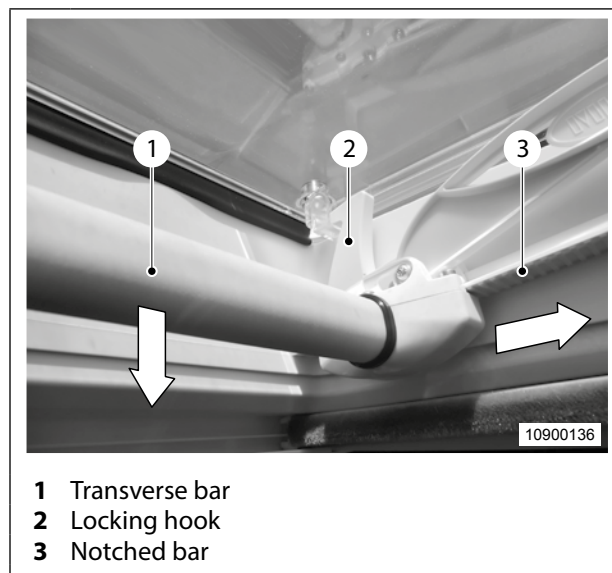

Fig. 17 Opening/closing the roof light
1. Grip the middle of the transverse bar (Fig. 17, item 1) with one hand and pull downward.
2. Hold the transverse rod (Fig. 17, item 1) pulled down and slide the roof light until it has reached the desired opening angle.
3. Let go of the transverse rod (Fig. 17, item 1).
The standout mechanism engages with the notched bar (Fig. 17, item 3) and the skylight dome remains at that angle.
2. With the transverse rod (Fig. 17, item 1) pulled downward, push the roof light in the opposite direction until it is completely closed.
When the end position is reached, the stop hooks (Fig. 17, item 2) will automatically lock the skylight dome.